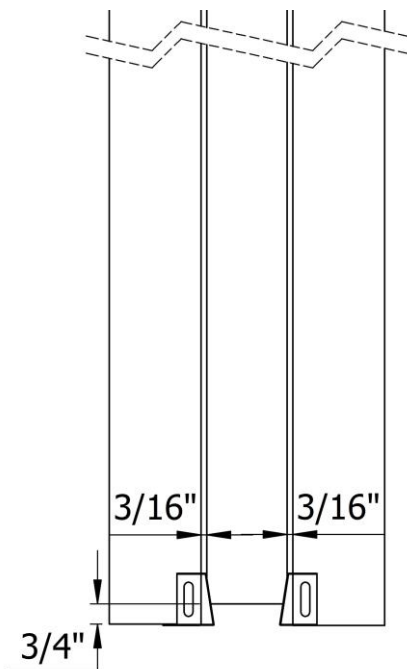

Figure 7
Note: There is about half an inch of adjustment that can be made with the door hangers. Leave about 3/4" clearance between the floor and the bottom edge of the door. See Figure 7.
- Create pilot holes to the finish split jamb using a 5/64" drill bit and the Floor Guide as templates. See Figure 7.